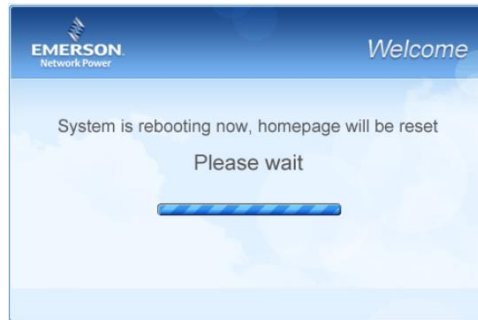

Figure 3-55 Reboot page
9) Type the login password of current user, and click **OK**. The reboot page pops up, as shown in Figure 3-55;